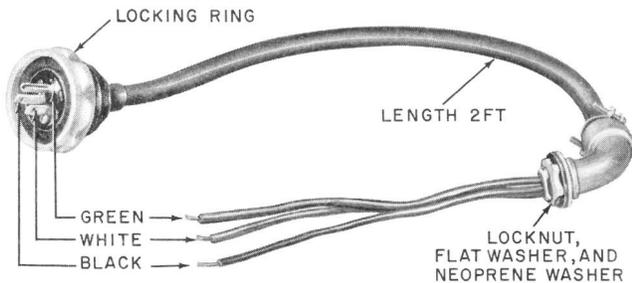

Fig. 12—KS-19580, List 30 Power Cord Assembly
2.25 KS-19580, List 30 power cord assembly (Fig. 12) is available for overhead power.